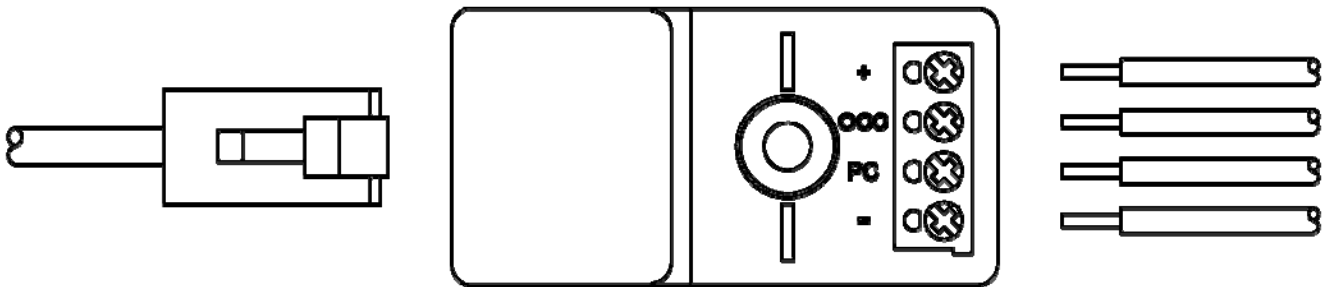

Figure 1: RJ45 Adapter Wiring Diagram / Terminal Connections
1. Using a small blade controls screwdriver, connect wire leads from the sensor to the terminal block on the RJ45 Adapter as shown in Figure 1.